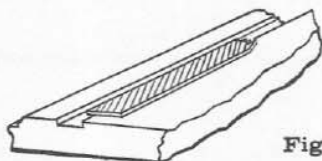
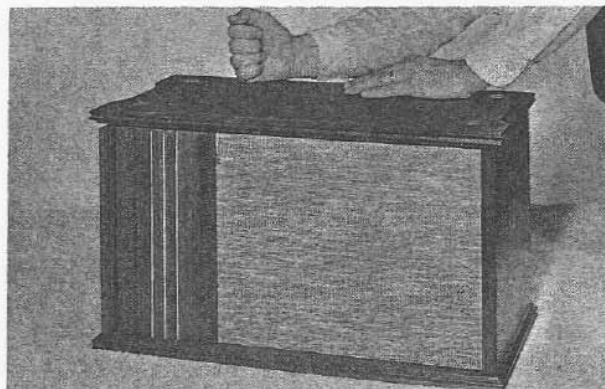

Figure 4
Figure 9
- At this point of assembly there will be extensive use made of the foamed plastic gasket material. This material is supplied, not necessarily to prevent enclosure air leakage, but to act as a joint filler and tightener to prevent rattling of panels against each other. (See Figure 4) The tape may be cut to the required length and the backing removed to bare the adhesive face. The corrugated backing may be removed quickly by inserting a fork tine, nail, or other pointed object into one of the loops to loosen it.
- Press gasket tape which has been cut to length firmly along the grooves of the top panel at the back edge as shown in Figure 4.
- Line the grooves of the bottom panel with gasket tape in the same manner as shown in the Figure 4 step. Carefully align the grooves with the front, back and side tongues. The holes in the counter bores of the bottom panels must be lined up with the rods. The rods may be bent gently by hand if they are misaligned. Press the bottom into place and turn the remaining wing nuts onto the rods. Strike the bottom panel with the hand (Figure 9) while tightening the wing nuts thus seating the panels fully.